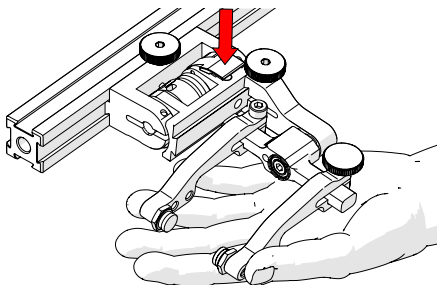

Fig. 113 - Lift slightly and press latch
2. Lift probe holder slightly and press the latch button (Fig. 113) to release the probe holder the full 45° degrees.